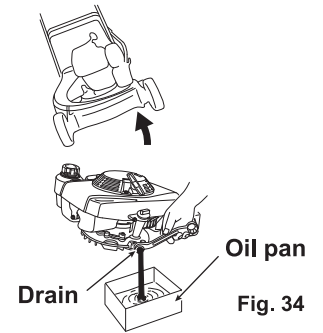

Fig. 34
2. Drain the engine oil from the drain port. (See Fig. 34)